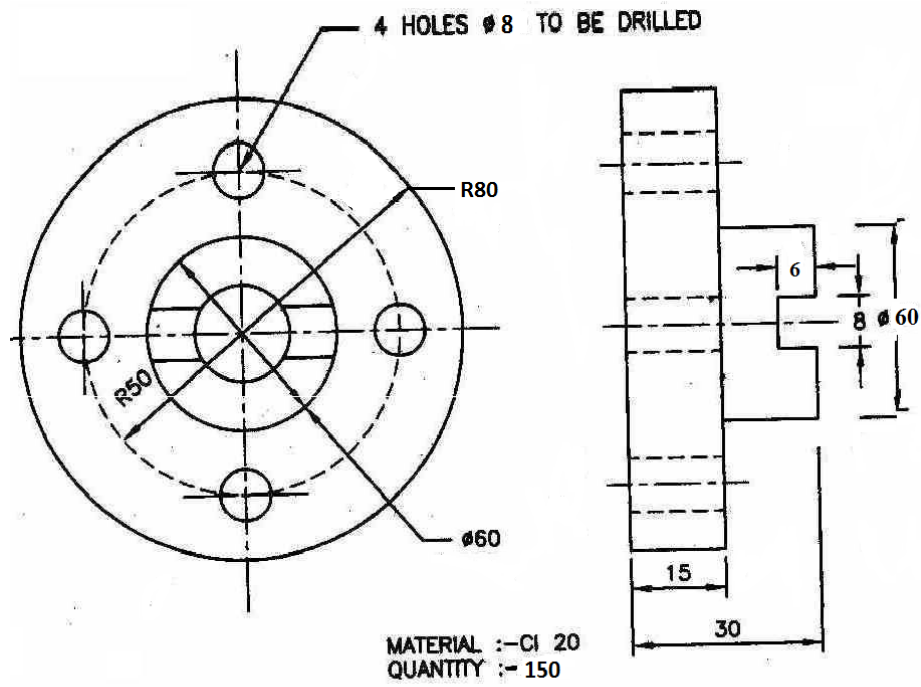

Fig. 1
- (c) For a component shown in figure 1... **07**